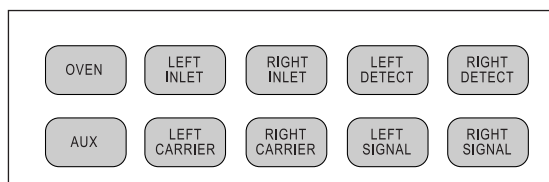

Figure 3-1. Zone and Device Keys to Set Run Parameters
2. A default analytical method has been installed in the TRACE GC Ultra. To see its parameters, press each of the keys shown in Figure 3-1 and examine the settings for each menu item.